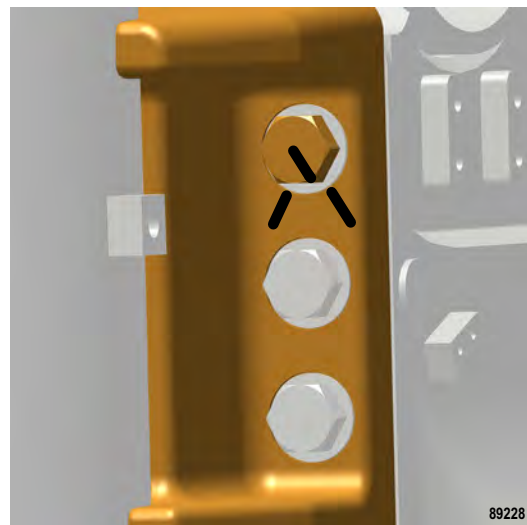

FIGURE 50-13. 60 DEGREE REFERENCE LINES
8. Make 60 degree reference lines as follows. See Figure 50-13.